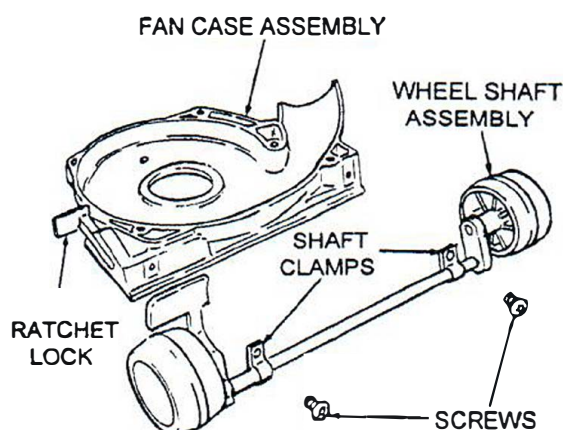

Figure 11. Ratchet Lock and Wheel Shaft Removal
1. *See Figure 11.* Remove two screws and shaft clamps from bottom of fan case.